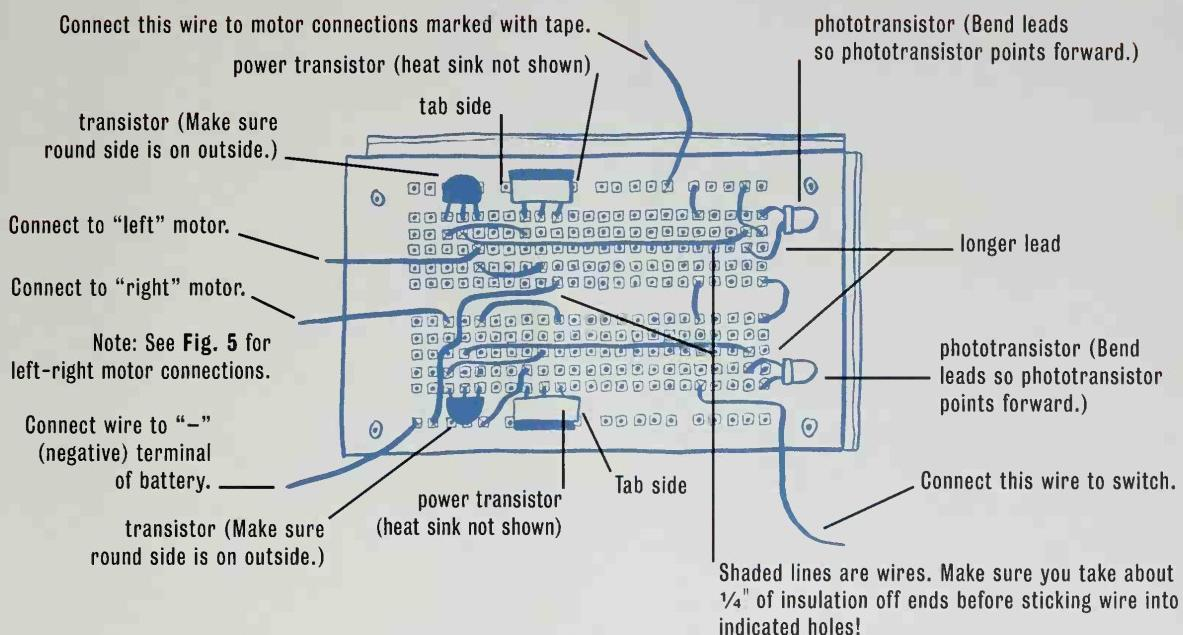

Fig. 1
2. Carefully follow Fig. 1, which shows an experimenter breadboard with the transistor’s leads and
The wires in Fig. 1 are shaded to help guide you in connecting the wires correctly. It isn't necessary for you to use different shades of wires—it just makes things a little easier and there is less chance of goofing up by connecting the wires to wrong holes or wrong parts.